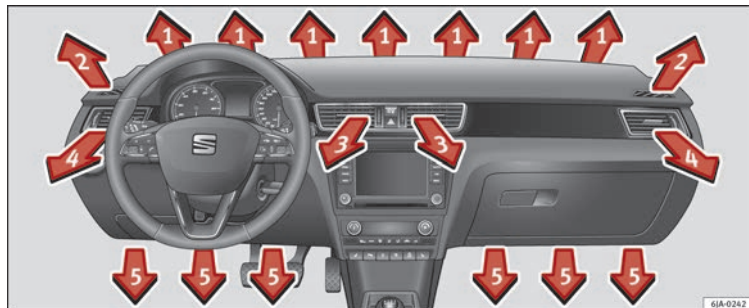
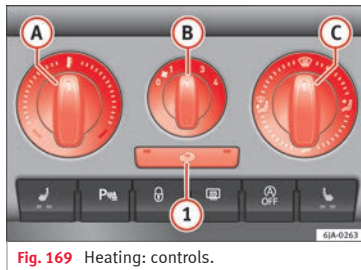

Fig. 168 Air vents
Fig. 169 Heating: controls.
- The air circulation height can be varied by changing the position of the sliding adjuster upwards or downwards » Fig. 168.
The flow of air from the vents is controlled using control **(C)** » Fig. 169. Vents 3 » Fig. 168 and 4 can be opened and closed individually.
- Turn rotary control **(A)** » Fig. 169 clockwise to increase the temperature.
- Turn rotary control **(B)** » Fig. 169 to position 1 to 4 to switch the blower on.
- Turn rotary control **(C)** » Fig. 169 to select the air vents » page 143, Air vents you wish to activate.
All controls, except control **(B)** » Fig. 169, can be set to any intermediate position.
If the rotary switch **(C)** » Fig. 169 is in the thaw position, the recirculation flap will always be open (button light off).
- Press button **1** » **Fig. 169**, the switch's lamp will light up, indicating that air recirculation inside the vehicle has been activated.